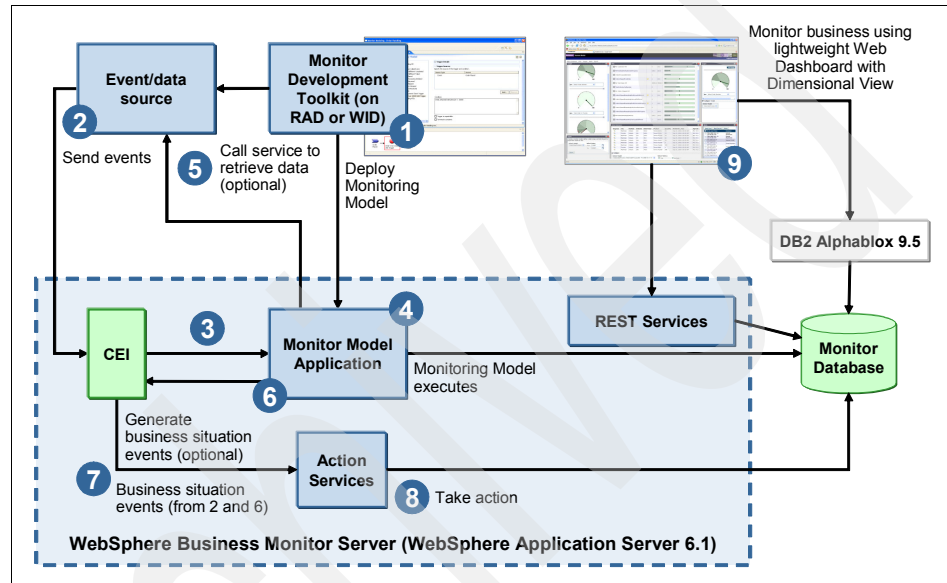
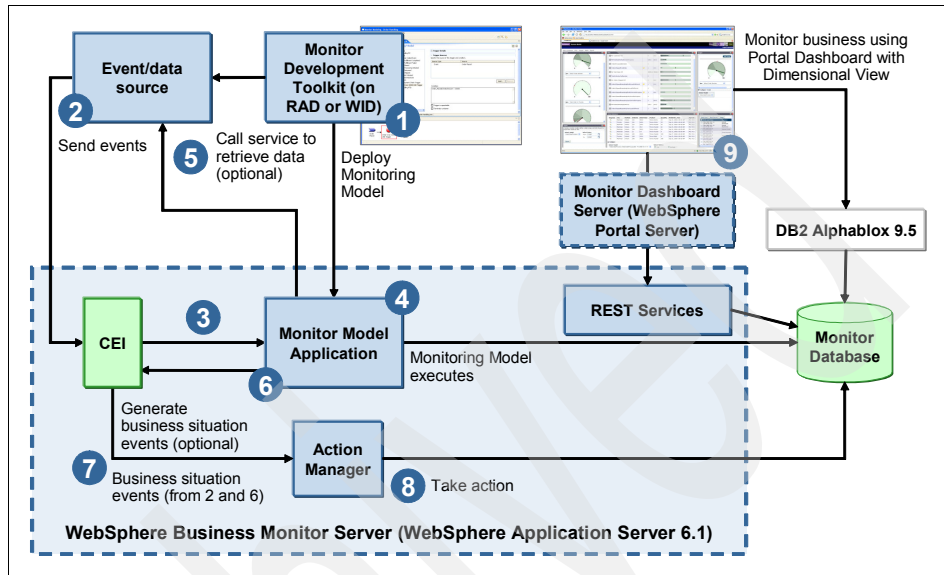

Figure 2-7 WebSphere Business Monitor V6.1 run time with Web dashboard
Figure 2-8 WebSphere Business Monitor V6.1 run time with Portal dashboard
WebSphere Business Monitor V6.1 provides two types of dashboards: Web-based dashboards and portlet-based dashboards. *Web-based dashboards* are implemented as Web pages. *Portlet-based dashboards* are a component of WebSphere Business Monitor V6.1 that operates within the WebSphere Portal V6.0.1.1 environment. Figure 2-7 on page 25 and Figure 2-8 on page 26 illustrate the runtime architecture respectively. As indicated by the flow in both figures, you follow this sequence:
- Figure 2-7 shows usage of the lightweight Web dashboard, which is implemented as Web pages. DB2 Alphablox package installation is optional and is only the prerequisite for use of the dashboard's dimensional and report views.
- Figure 2-8 shows usage of the Portal dashboard, which uses WebSphere Portal Server to invoke a REST service. DB2 Alphablox package installation is optional and is only the prerequisite for use of the dashboard's dimensional and report views.